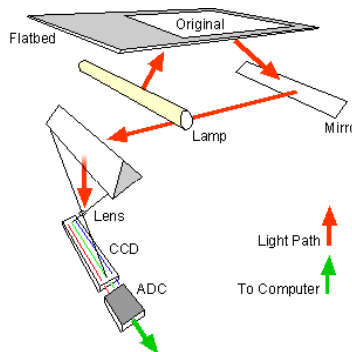

Figure 1(a) Internal structure of Computer Scanner.
- (a) “An embedded system can be a very simple piece of electronic circuitry that performs a specific function within a larger system”. Explain how a computer scanner can be an example of embedded systems applications using the diagram shown in Figure 1(a). (5 marks)
- (b) Illustrate with example the following types of embedded systems as shown in Figure 1(b).